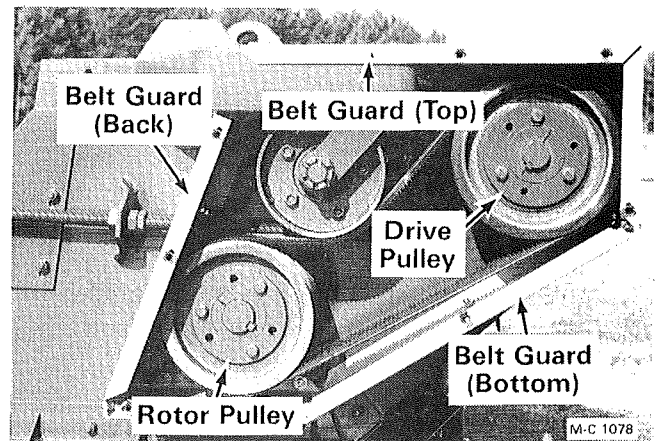

Figure 32 - Idler Push Rod Ass'y.
1. Remove the belt guard cover and place a straight edge across the face of the drive and rotor pulley, see Figure 32.